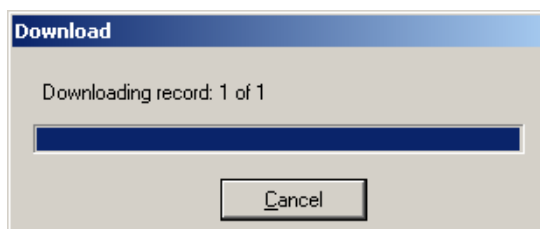

Figure 2-26 Sequence of Events Retrieve/Download Screen
1. From the IPScom Main Screen menu select **System/Sequence of Events/Retrieve**. IPScom will display the Sequence of Events Recorder Download screen (Figure 2-26) and indicate the number of Sequence of Events Recorder Events being downloaded.